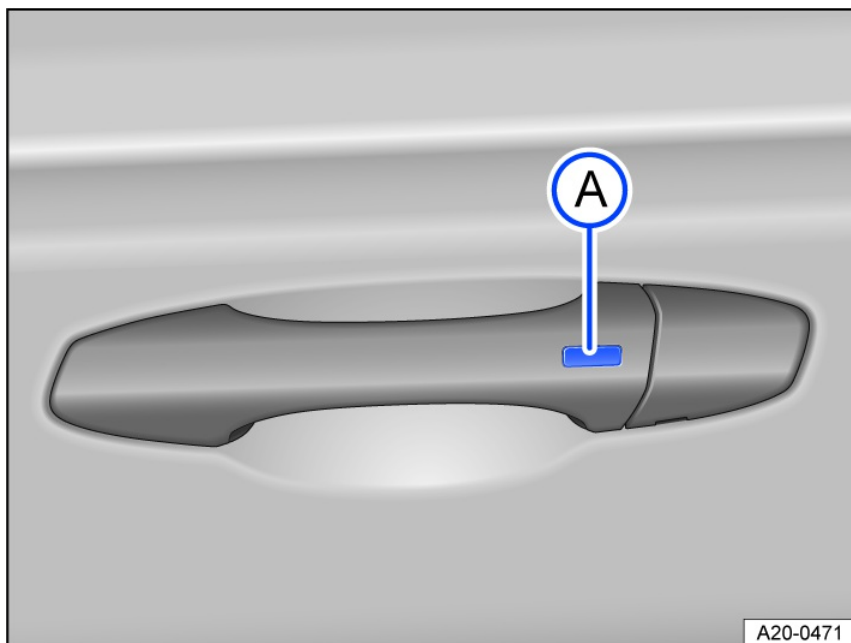

Fig. 58 In door handle: Button to unlock or lock.
1. Press the button on the outside of the door handle *fig. 58*.
2. Press the button on the outside of the door handle *fig. 58*.
2. Within five seconds of locking the vehicle, press the button on the outside of the door handle once *fig. 58*. Do not grasp the door handle during this process.